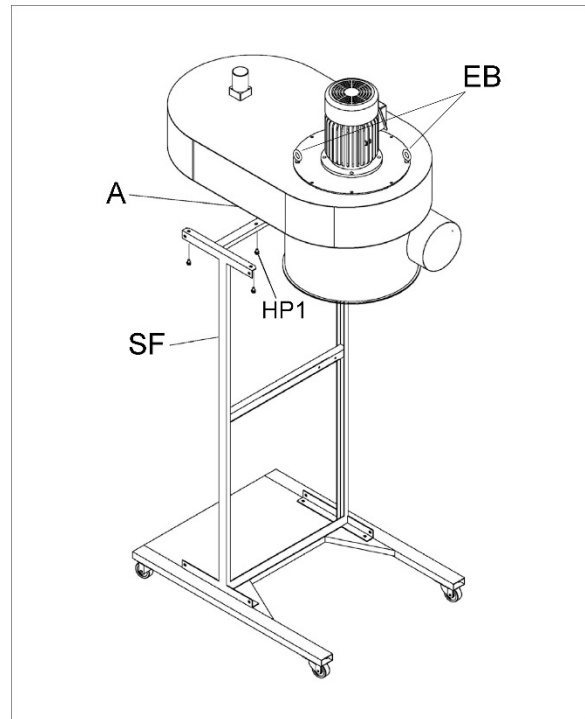

Figure 5
3. Use a hoist with straps/hooks through the eye bolts (EB, Figure 5) to raise housing assembly.
4. Position main housing (A, Figure 5) onto support frame (SF) and secure with hex flange bolts (HP1).